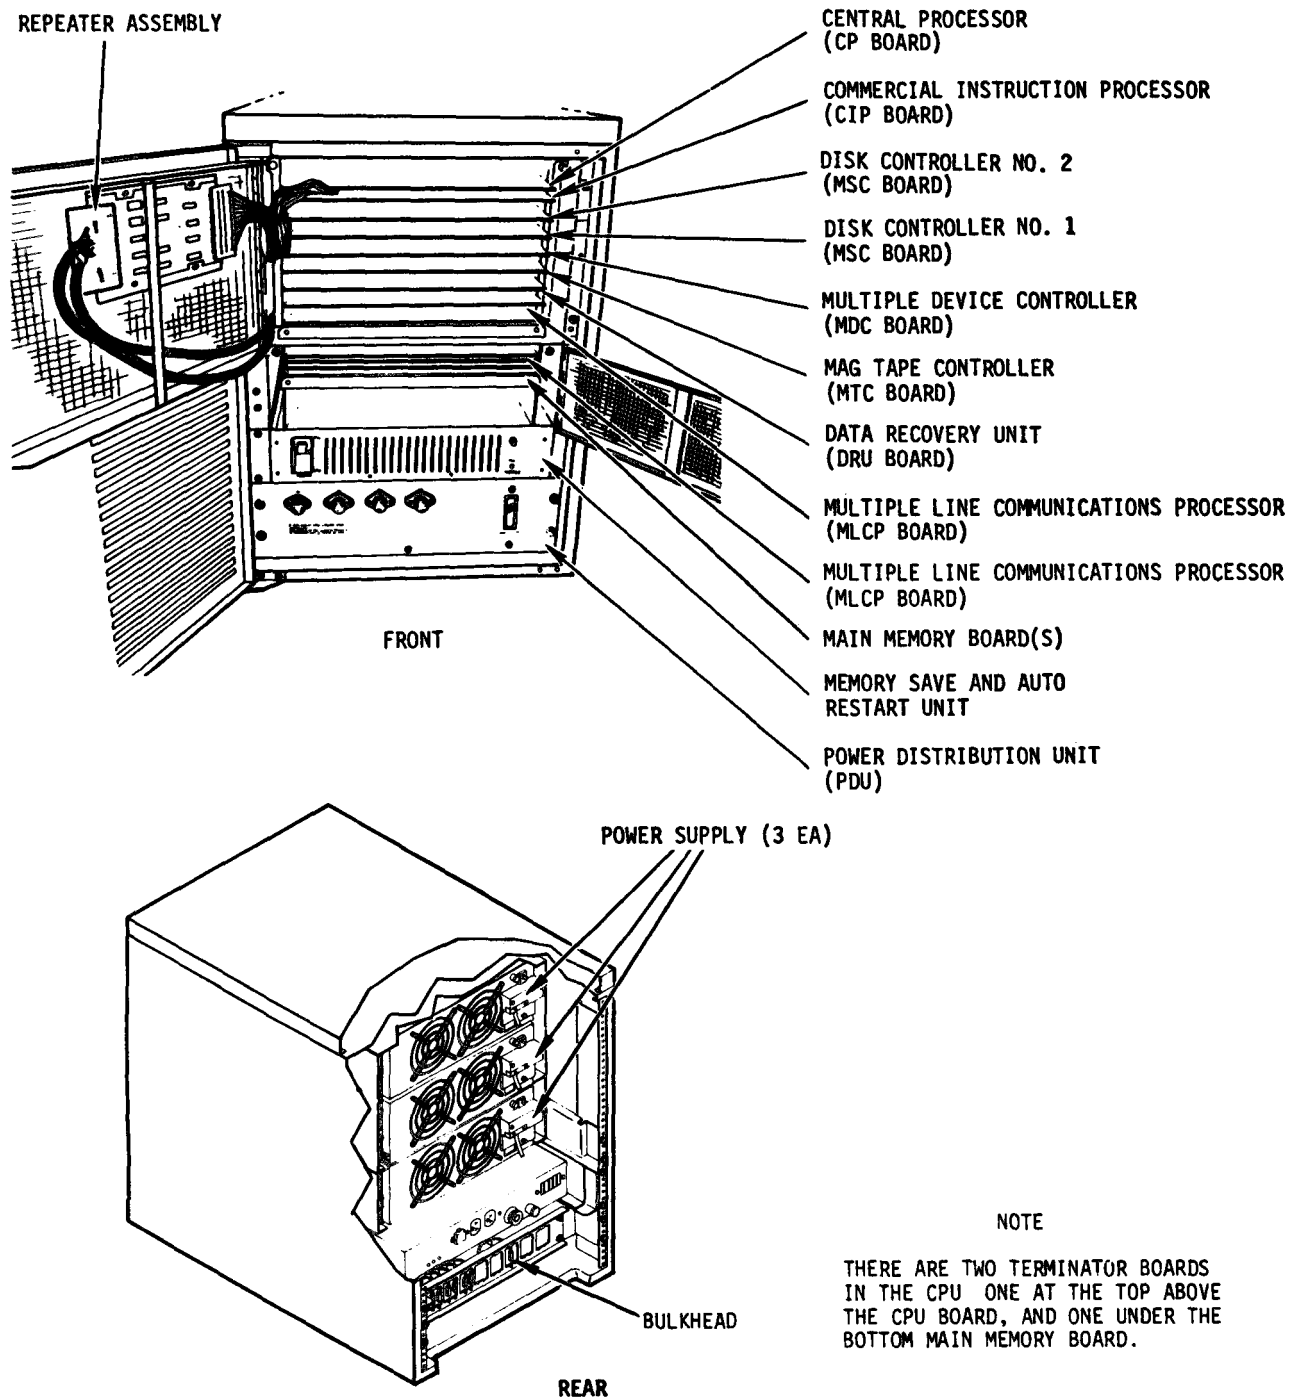
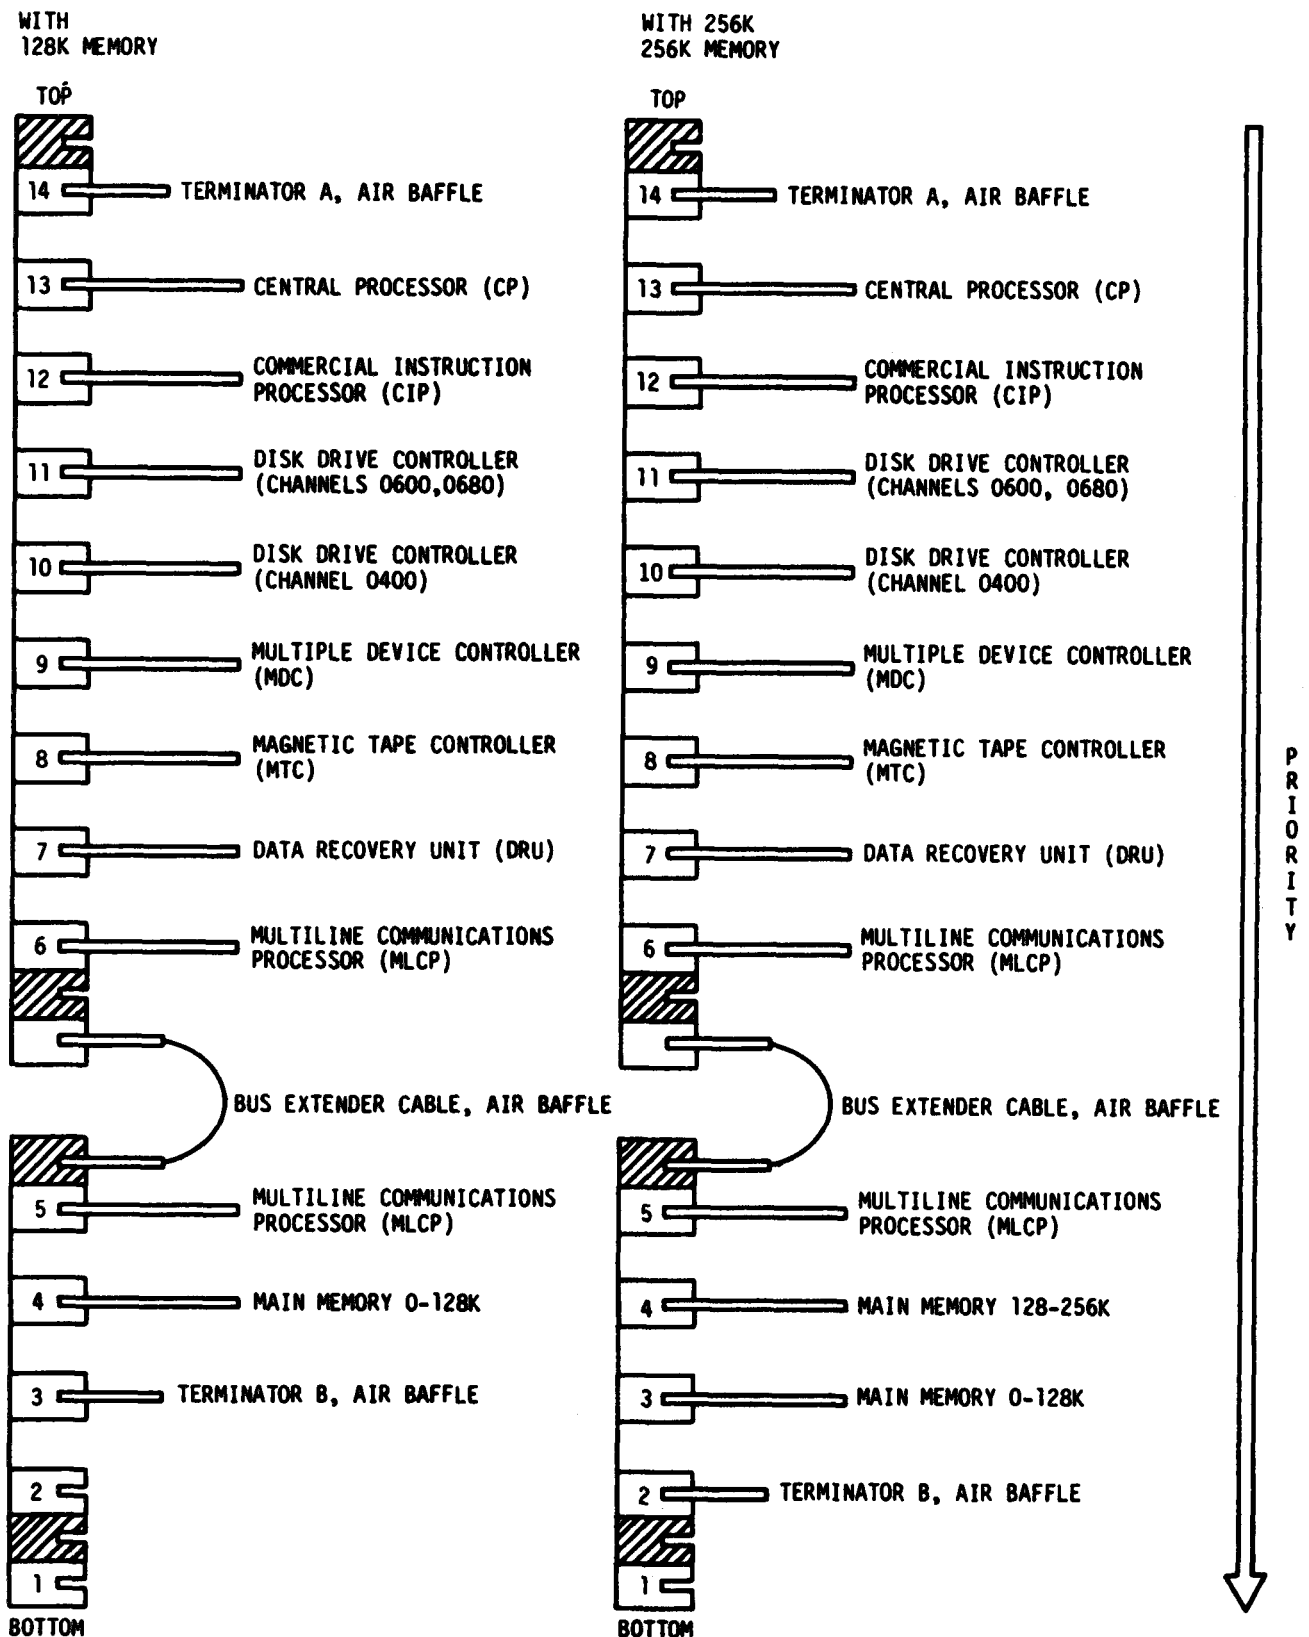
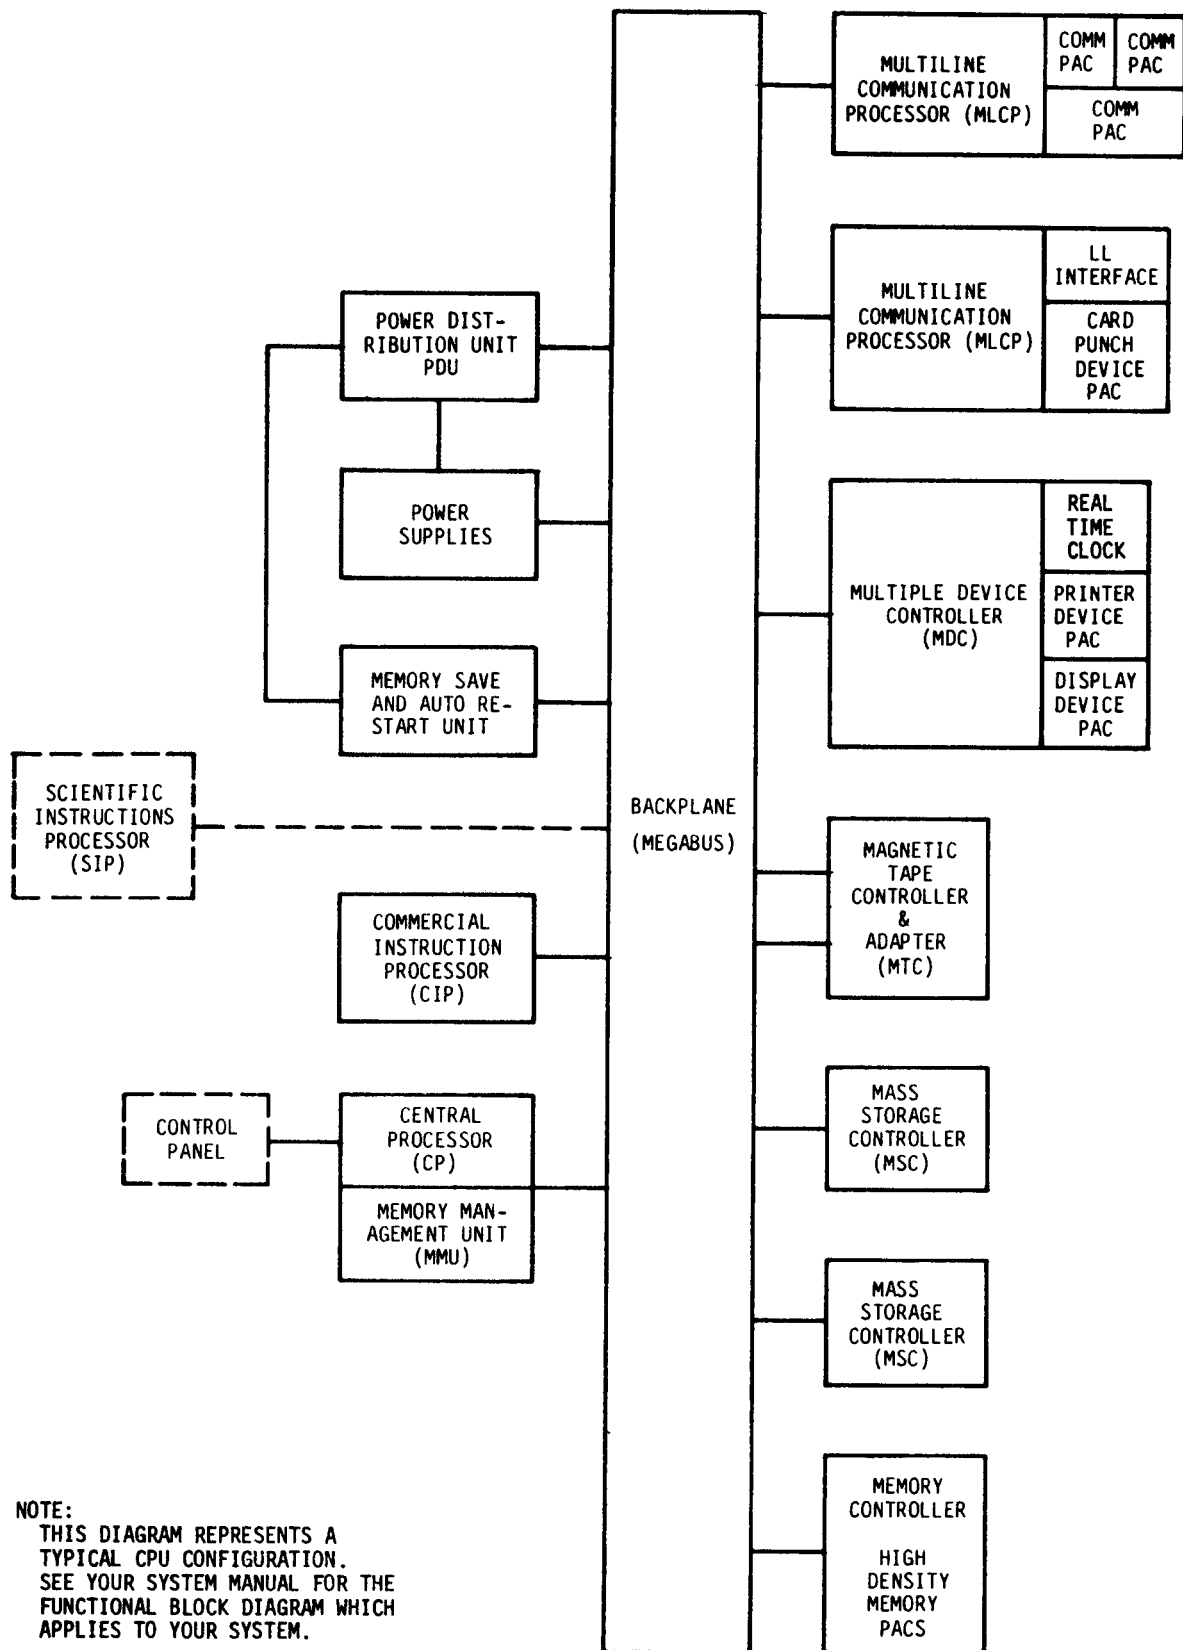

Figure 1-1. Location of Major Components for CP-1435/MYQ-4
Figure 1-3. Megabus Slot/Board Location for CP-1435/MYQ-4
Figure 2-1. Functional Block Diagram for CP-1435/MYQ-4
Figure 1-1 illustrates the major components of CP-1435/MYQ-4. Figure 1-3 illustrates board location by megabus slot number.
Board complement and meagabus slot locations vary between the CPU models covered in this manual. Figures 1-3 and 1-4 illustrate the basic configuration difference for SP435/MYQ-4 and CP-1435A/MYQ-4 respectively.
The CPU is a general purpose minicomputer housed in a single cabinet with power supplies and a power distribution unit. The CPU (fig. 2-1 and 2-2) is comprised of a central processor (CP), commercial instruction processor (CIP), memory management unit (MMU), memory controller and peripheral device controllers. All of these units are printed circuit boards installed in a 15-slot backplane (fig. 1-3 and 1-4). Additionally, the CPU contains a memory save and automatic restart unit.